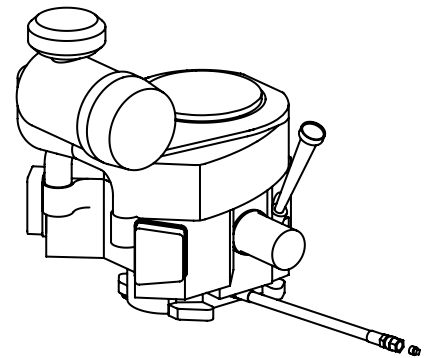

Figure 20
- Locate the oil drain hose on the engine. See Figure 20.
5. While holding the free end of the oil drain hose over the oil collection container, unscrew the square-head hose plug from the end of the hose. See Figure 20 on page 17. Drain the engine oil into the collection container.